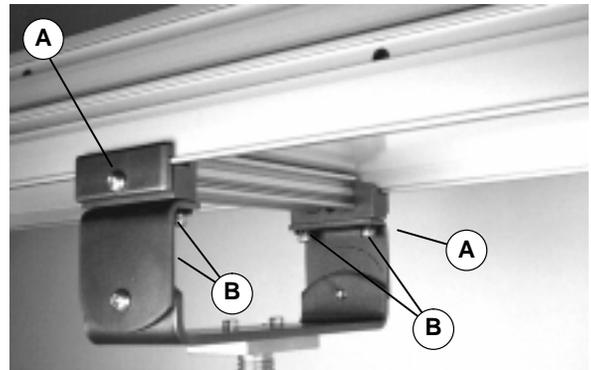

Figure 3
3. Attach clamp plates on each side of conveyor (Figure 3). Align assembly perpendicular to conveyor or frame. Secure the 5/16 button head screws (A) with 150 in-lb (17 Nm) torque or the M8 button head screws (A) with 80 in-lb (9 Nm) torque.
4. Mount to support stand. Secure the 1/4 or M6 socket head screws (B) with 80 in-lb (9 Nm) torque. Make sure belt is free to move.